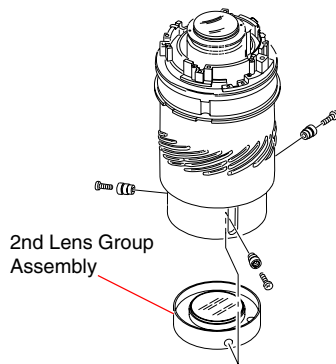

Fig.4-2-8
- 1) Set the checking lens into the state of Fig.4-2-8 (all exterior parts and 2nd lens set were removed).